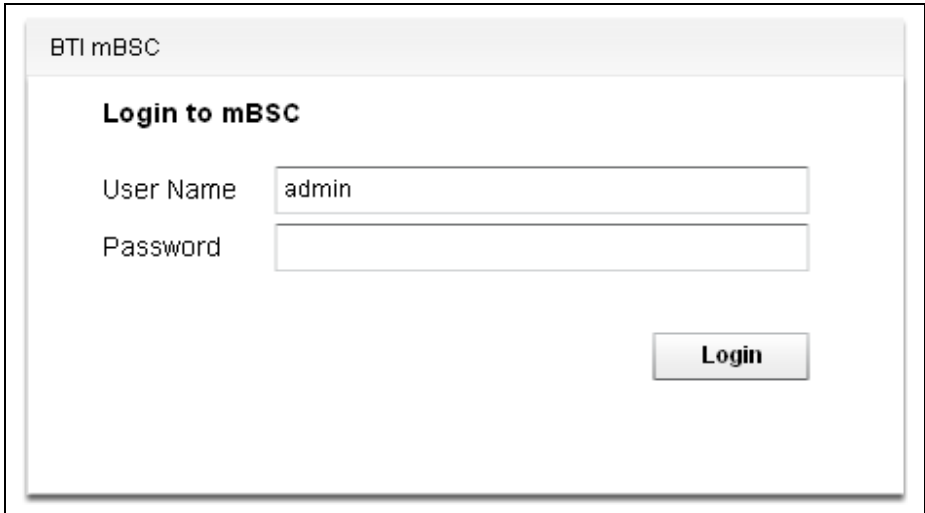

Figure 37– EMS Local GUI Login
1. Type the appropriate URL into the browser (e.g. <http://192.168.5.220> for USB port). The dialog box shown in Figure 37– EMS Local GUI Login will appear.